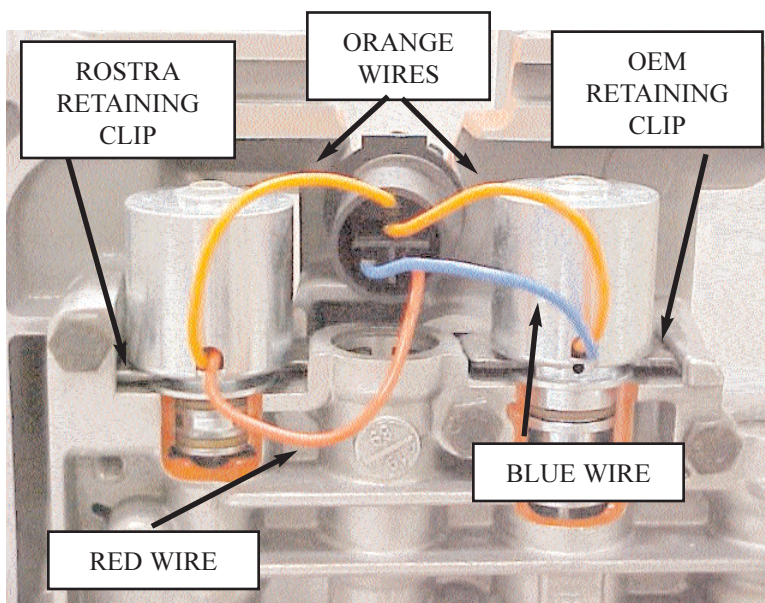

FIGURE 1
5. Place the supplied aluminum spacer plug into the 3-4 solenoid bore with the "nipple" on the plug facing out. Then insert the new 3-4 shift solenoid into the valvebody with the wires pointing to the pan side of the valvebody. Use transmission fluid to lubricate the o-rings to ease assembly. Reinstall the OEM retaining-clip to hold the solenoid in place. **See FIGURE 1.**
6. Insert the new lock-up solenoid into the valvebody with the wires pointing to the pan side of the valvebody. Use transmission fluid to lubricate the o-rings to ease assembly. Install the new, Rostra provided retaining-clip into the valvebody to hold the new solenoids. **See FIGURE 1.**